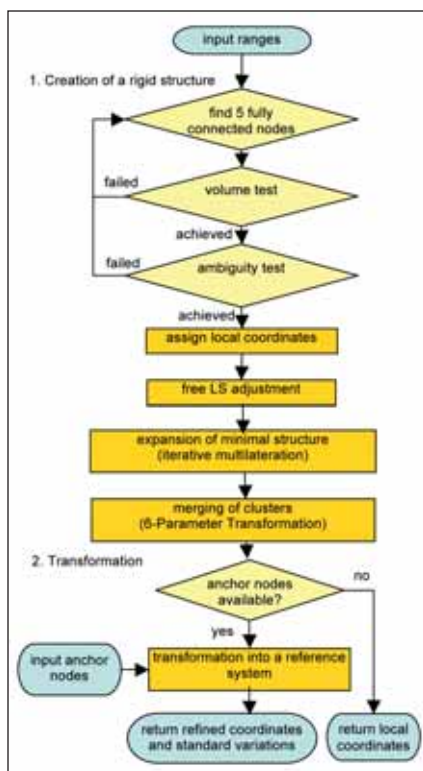

Fig. 1 Positioning algorithm, which does not require any initial approximate coordinates.
2. Transformation of the cluster(s) into a reference coordinate system: If the local cluster contains at least four vertices that are also anchor nodes in a reference system, then the cluster is eligible for a transformation into that particular coordinate system. The process flow of the overall positioning strategy is illustrated in Figure 1.